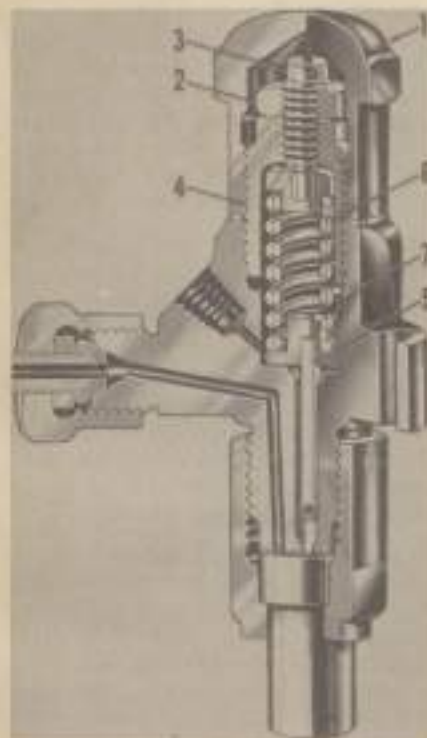

Fig. 75—Injection nozzle sectional view.
**123. OVERHAUL OF NOZZLE HOLDER.** Refer to Fig. 75. Remove cap nut (1) and gasket. Loosen jam nut (2) and adjusting screw (3). Remove the spring retaining nut (4) and withdraw the spindle (5) and spring (6). Thoroughly wash all parts in clean diesel fuel and examine the end of the spindle which contacts the nozzle valve stem for any irregularities. If the contact surface is pitted or rough, renew the spindle. Examine spring seat (7) for tightness to spindle and for cracks or worn spots. Renew the spring seat and spindle unit if the condition of either is questionable. Renew any other questionable parts.